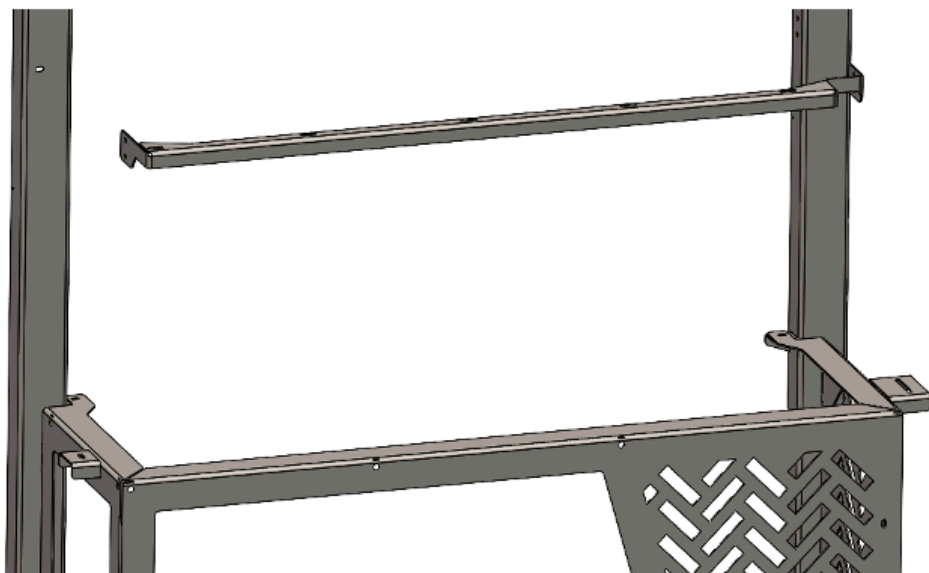

Figure 3
5. Use four (4) $\frac{1}{4}$ " bolts, eight (8) flat washers, and four (4) hex nuts (50408-HW) to attach the 23010 front cross piece to the uprights. (Figure 3)